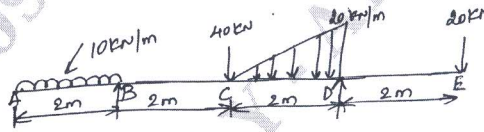

Fig.Q6
- 6 Draw the SFD and BMD for an overhanging beam shown in Fig.Q6 and locate the points of contra flexure.